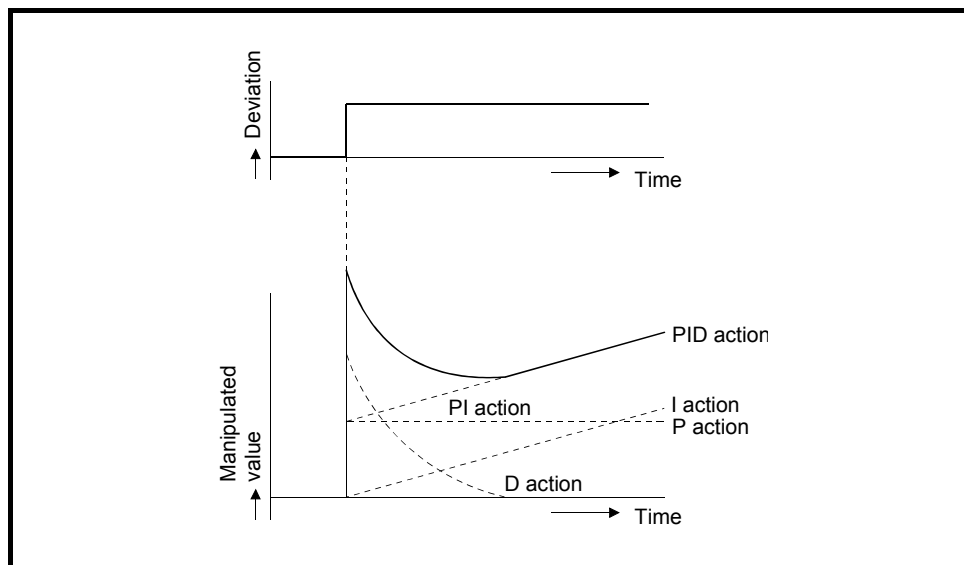

Fig. 1.10 PID action for step response
- (1) The PID action performs control using the manipulated value calculated by proportional action, integral action, and derivative action.
- (2) The PID action for the step response when the deviation is constant is shown in Figure 1.10.